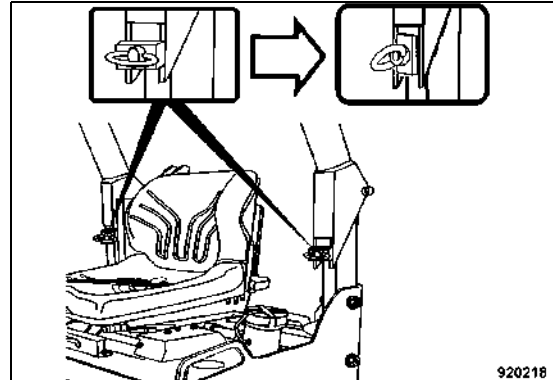

Fig. 111
- Fold down the foldable ROPS2 for transport. Loosen the eye bolts (Fig. 111) and adjust the clamping plates vertically.